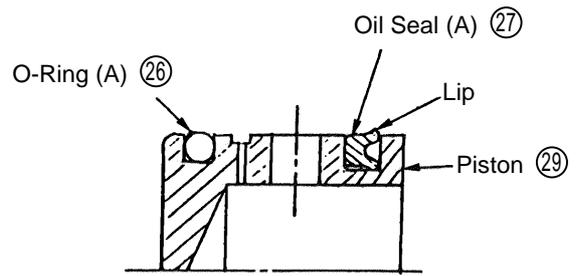

Fig. 9
(4) Mounting of Oil Seal (A) ②7:
When mounting Oil Seal (A) ②7 on the Piston ②9, ensure that the lip portion of the Oil Seal is directed toward the rear surface of the Piston, as illustrated in Fig. 9.